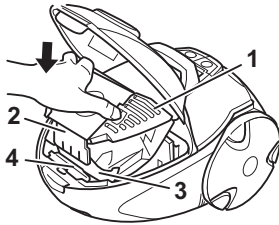

Fig. 20
7. Then reinsert the dust bag holder (Fig. 20/1) into the dust chamber. Push the guide of the dust bag holder (Fig. 20/2) straight into the rail provided for this purpose (Fig. 20/3) to do so, until the interlock for the dust compartment cover (Fig. 20/4) is folded back.